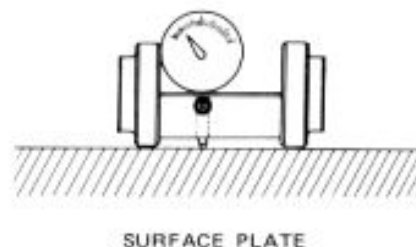

Fig. 16-21-2.
- Rest the dummy on the surface plate, and set the dial indicator to zero. See Fig. 16-21-2. Feed the dummy pinion into the carrier, positioning it properly; and install the joint flange. Secure the joint flange in place by tightening its nut to 70 kg-cm (5.0 lb-ft) torque.